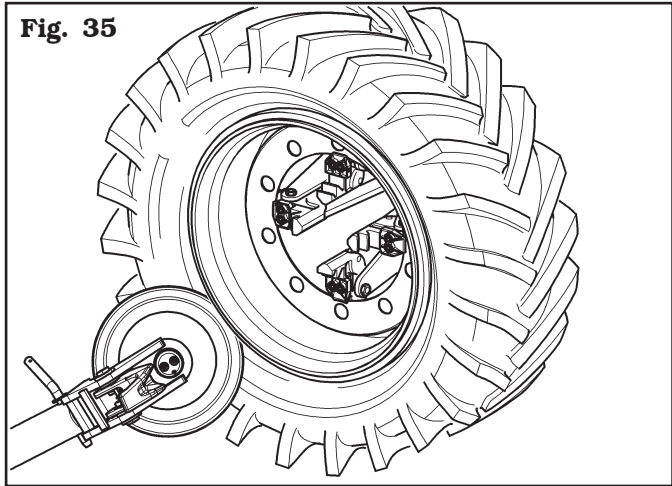

Fig. 35
- Carry out tools holder head 180° rotation according to the description of the relevant paragraph, in order to let the bead breaker disc come into contact with the tyre outer side (see Fig. 35).